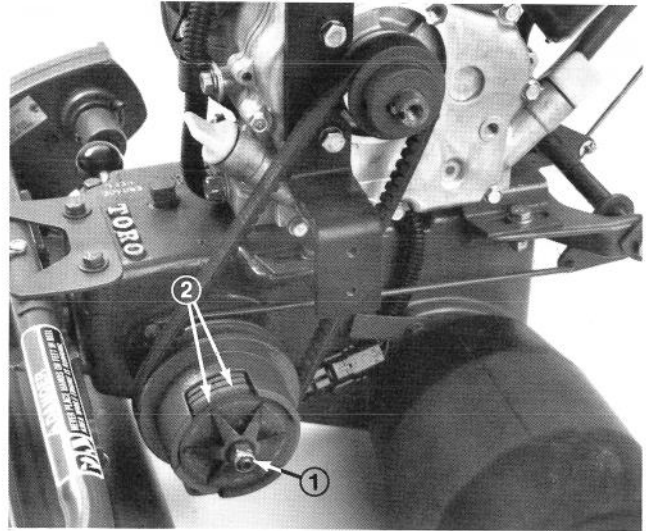

Figure 39
2. Tighten clutch locknut in small increments, start engine and test adjustment (Fig. 39).
Note: Clutch plates and friction discs should be totally free of grease or oil (Fig. 39).